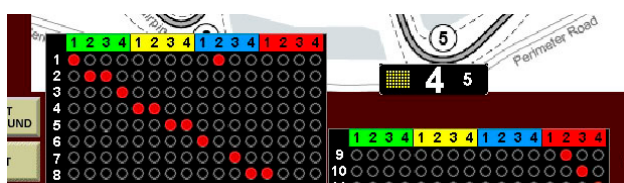

Figure 5 - iTSL Linked Turn Groups
**iTSL TURNS** - This function is used to group iTSLs together so all iTSLs in a turn group will always display the same flag when one of the iTSLs is selected. For tracks with difficult corners requiring multiple lights to effectively alert drivers, multiple safety lights can be grouped together to function as a single safety light. Sixteen (16) different turns are available designated as turn1 through 16. Notice in Figure 5, there are two turn group tables at the bottom of the screen